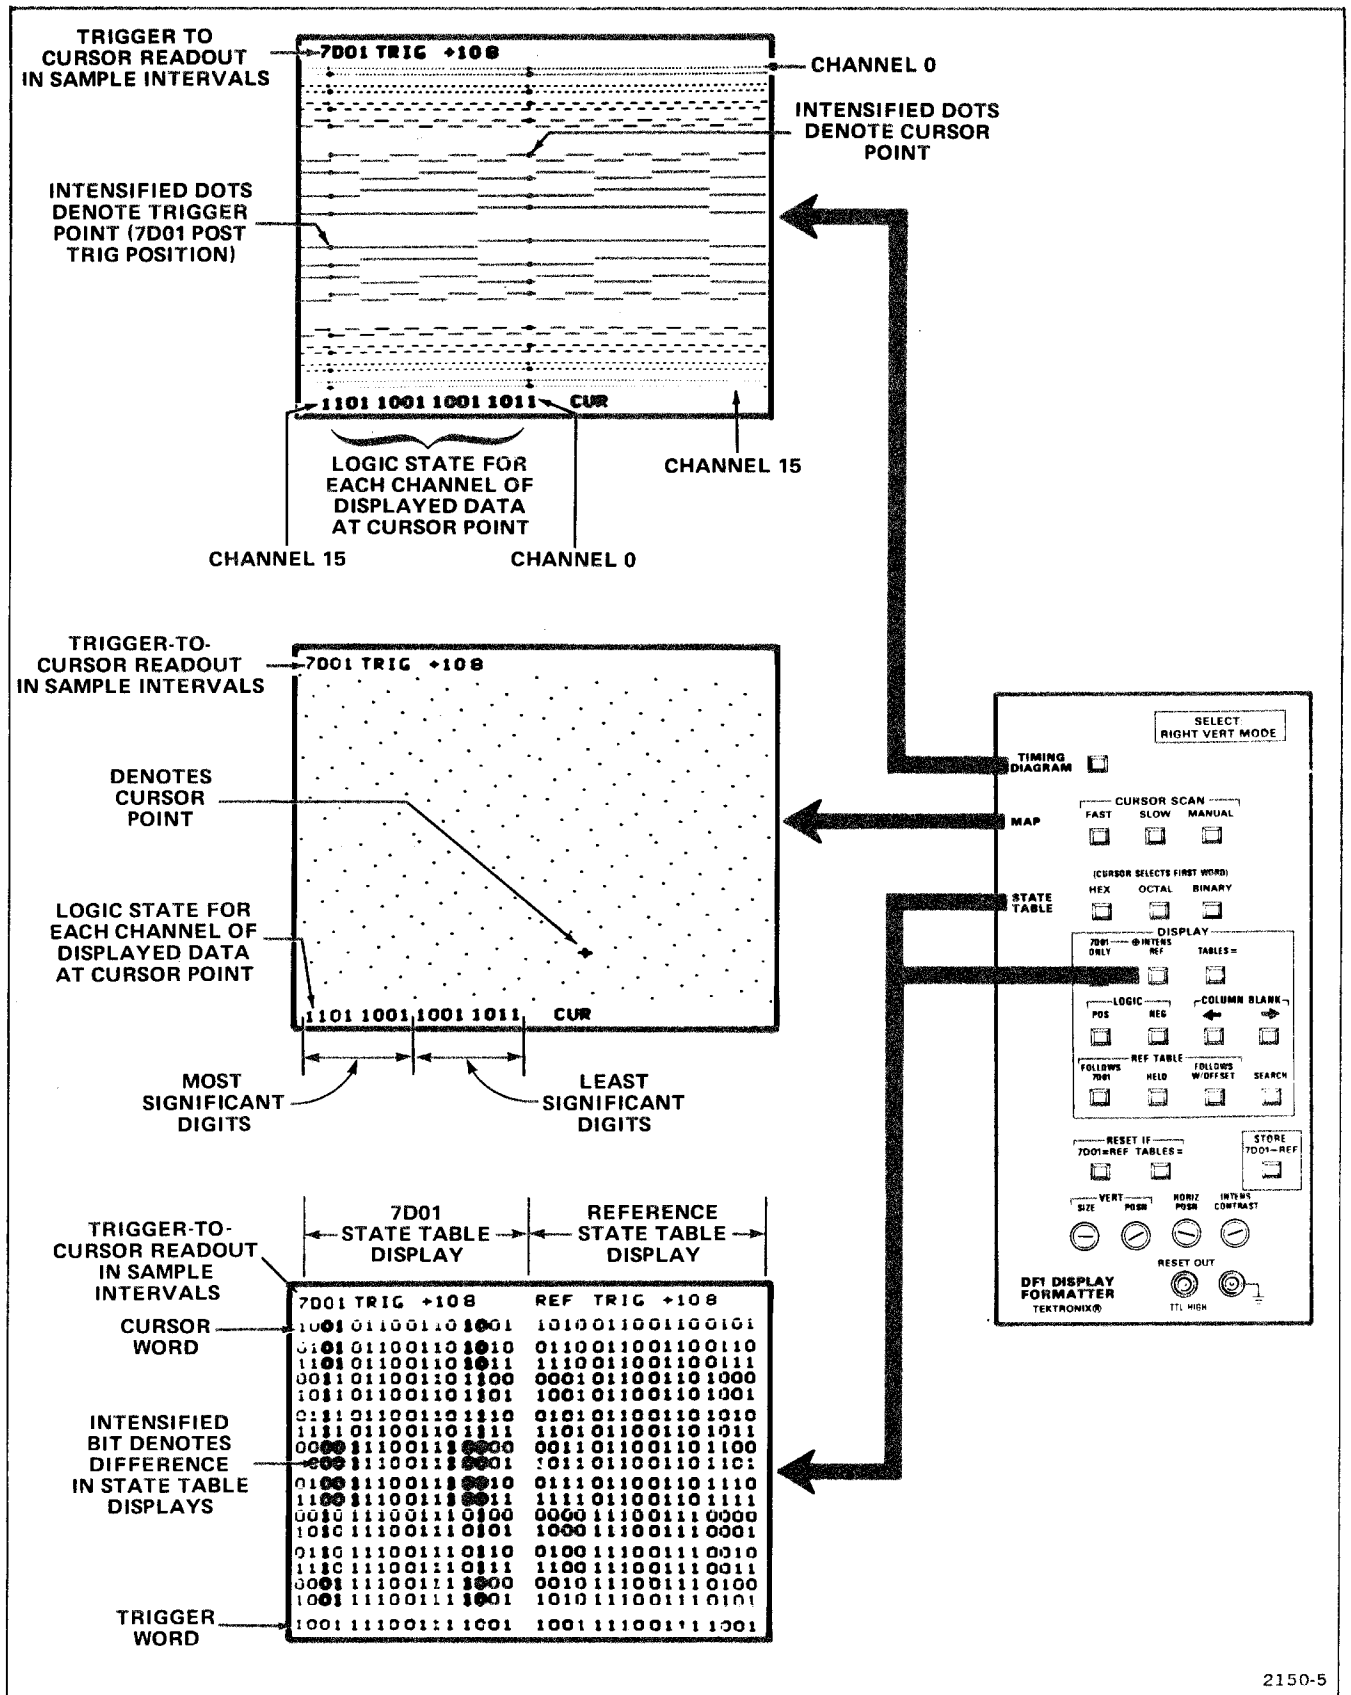

Figure 2-3. Typical DF1 Display Modes.
The DF1 displays digital data in 3 Display Modes: Timing Diagram, Map, and State Table. Figure 2-3 shows the controls required to activate typical DF1 displays.
The front-panel TIMING DIAGRAM push button selects the Timing Diagram display (4, 8, or 16 channels) from the companion 7D01 Logic Analyzer (see Fig. 2-3). The cursor function of the 7D01 provides an intensified zone on the data display and a corresponding numerical readout display shows the logic state for each displayed channel of data. The position of the cursor, relative to the trigger, is also displayed on the crt readout. Refer to the 7D01 manual for more information on the 7D01 Logic Analyzer.
The Map function provides a view of the 7D01 memory displayed as x-y coordinate dots on the crt. The vertical axis represents the most significant half of the data word and the horizontal axis represents the least significant half (see Figure 2-3).
displayed. If the trigger word is displayed in the first 17 words of the state table, it is indicated by a blinking condition. The position of the cursor, relative to the trigger, is also displayed on the crt readout (see Figure 2-3).
7D01 ⊕ INTENS REF. Two state tables are displayed simultaneously on the crt. The state table from the 7D01 is displayed on the left half of the crt and a reference state table is displayed on the right half of the crt (see Figure 2-3). When the 7D01 ⊕ INTENS REF is initially selected, the STORE 7D01→REF push button must be pressed to load the reference memory. Any differences between the 7D01 and reference state tables are indicated by intensified bits at the appropriate location in the 7D01 state table. Any differences in the state tables due to old data, indeterminate data, end data, or blanked columns, is interpreted as "don't care" conditions and are not intensified in the 7D01 state table (refer to the Glossary in the General Information section). If there are no differences between state tables, the TABLES= indicator is illuminated.
2. Check crt display for a 16-channel timing diagram (refer to Fig. 2-3). It may be necessary to adjust the mainframe